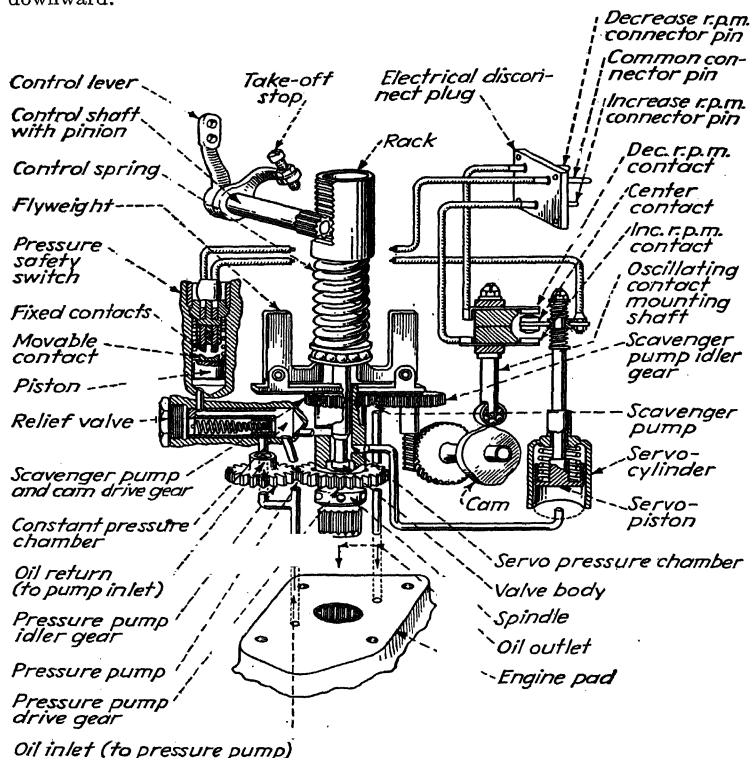

FIG. 67.—Schematic diagram of proportional governor.
**Governor** (Fig. 67).—The purpose of the governor is to maintain the engine at a constant speed by changing the propeller blade angle to correct for varying conditions of operation such as engine power, airplane speed, and air density.
The governor consists of two major assemblies designated, respectively, as the "upper case" and the "lower case." Both are dural castings which have been anodized and painted for protection against corrosion. The upper case contains a rack, pinion, and lever which function together to control the force of the flyweight spring. The lower case contains an oil pump, a relief valve, a pressure switch, a flyweight spindle assembly, and a contact mechanism. Early type proportional governors did not include the oil pump and relief valve (see Figs. 67 and 68).